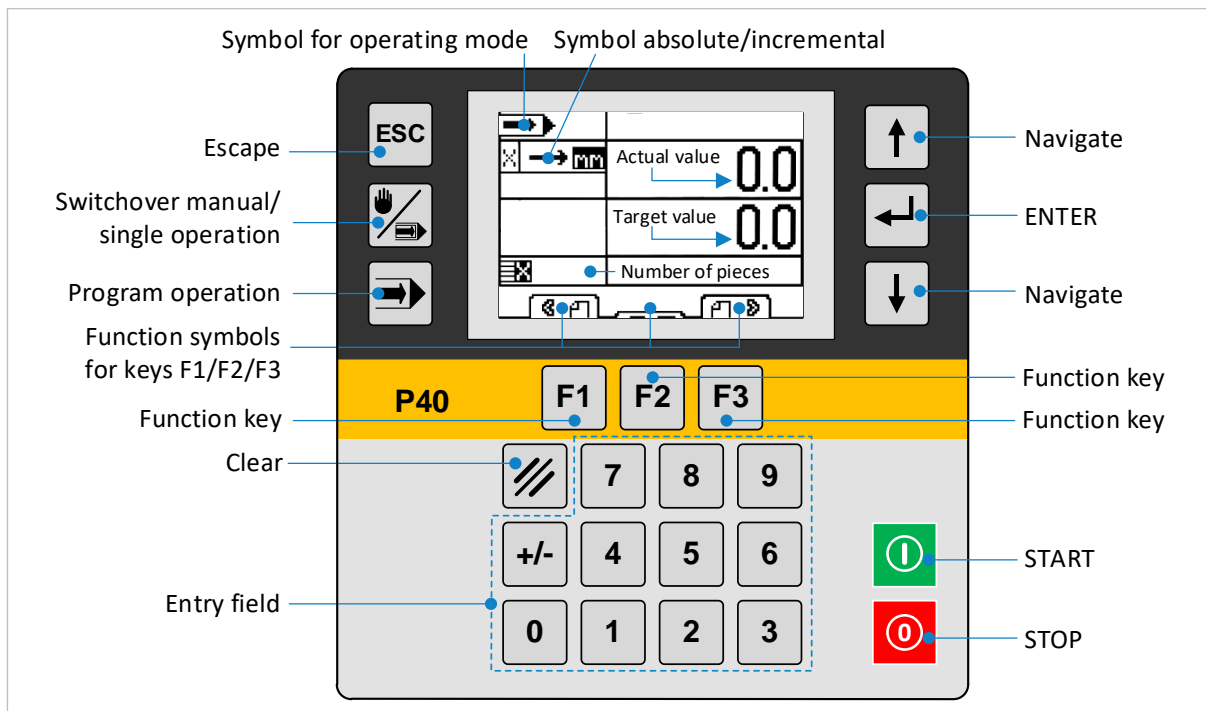

Figure 11: Keyboard and display functions of the P40 control unit
Each time the positioning control is switched on, the stop system of the measuring & roller measuring conveyor must first be referenced. → The reference run is started via the function key "F2" (refer to ⇒ Figure 11).
- If the position is entered incorrectly, you can delete the value with the “Clear” button (see ⇒ Figure 11).